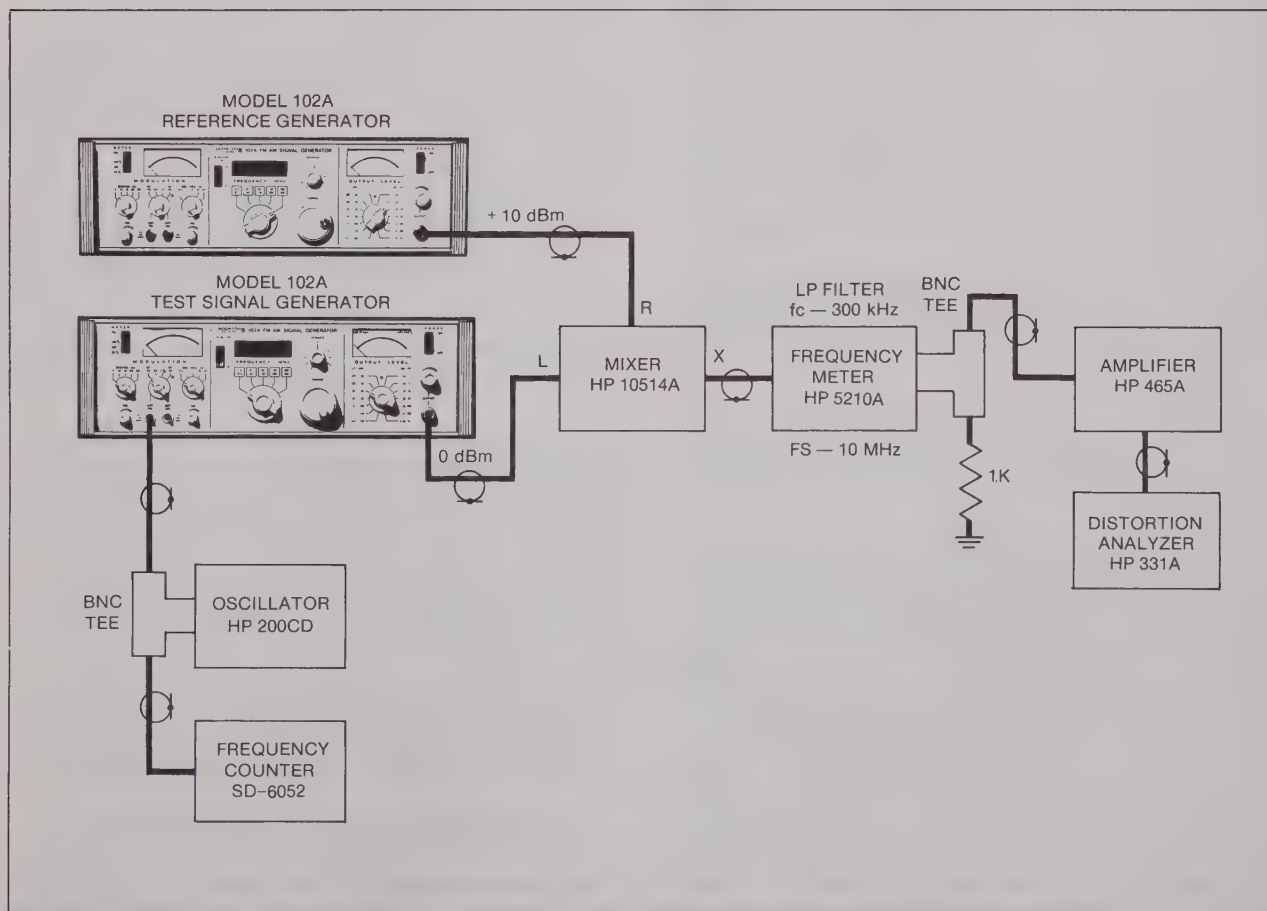

Figure 4-4 FM Deviation Tracking and Calibration, Test Setup
a. Connect the Model 102A and test equipment as shown in Figure 4-4.